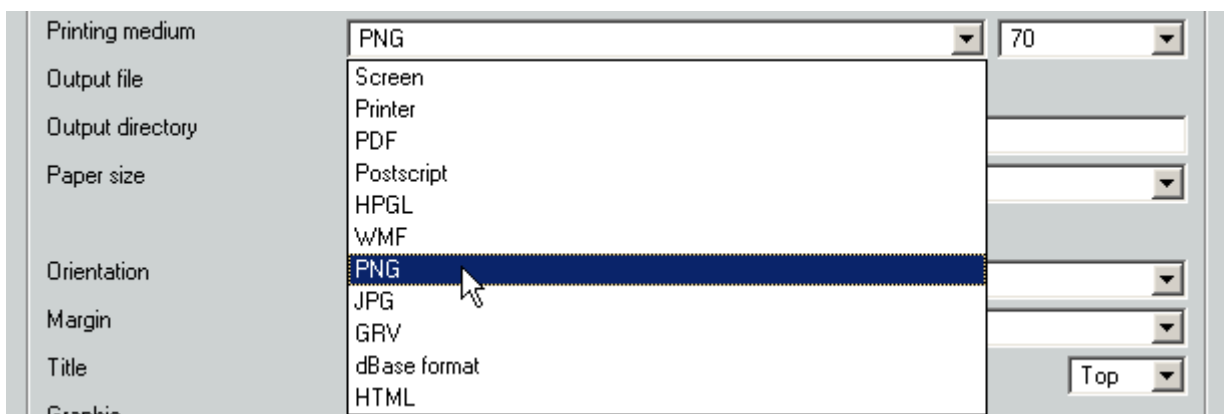

Figure 5.7: List Output medium
- which medium the output shall be directed to ($\leftrightarrow$ fig. 5.7)